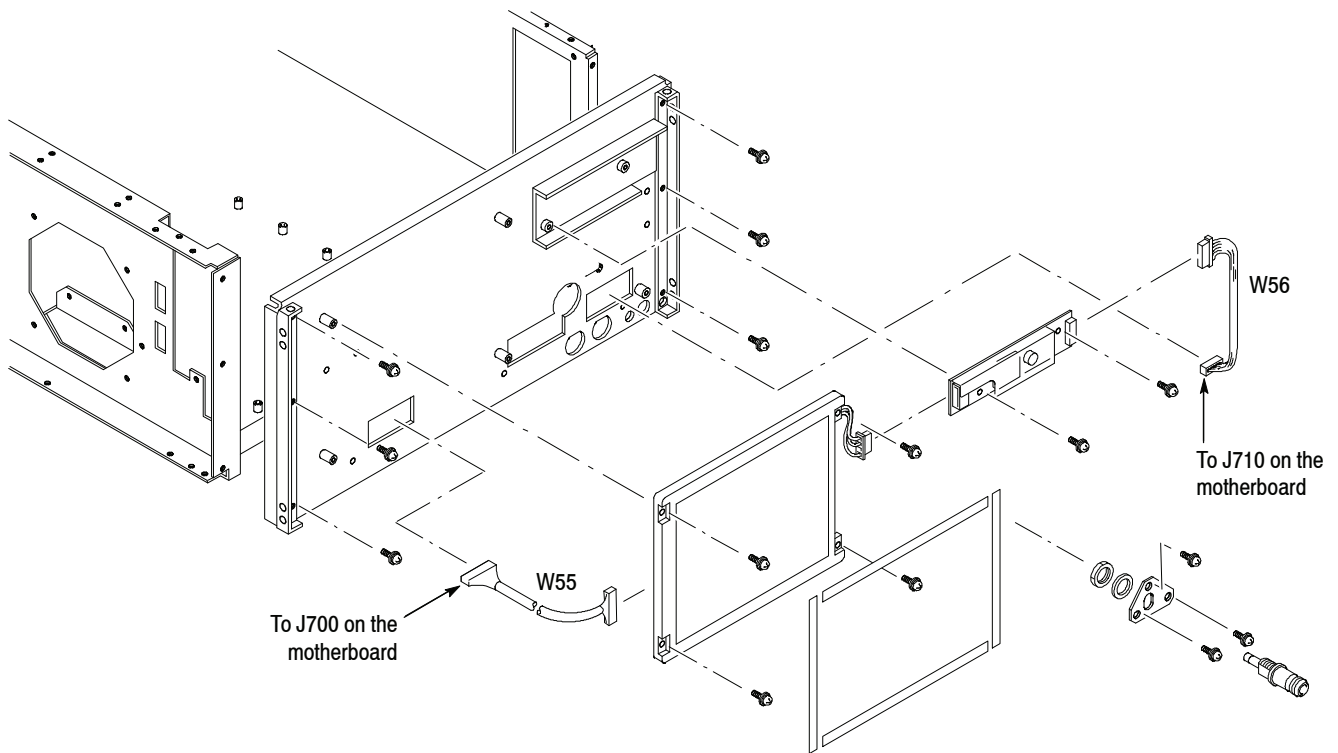

Figure 5-28: LCD display removal
3. *Remove the RF input connector:* See Figure 5-28.
3. *Remove the inverter:* See Figure 5-28.
4. *Remove the LCD display:* See Figure 5-28.